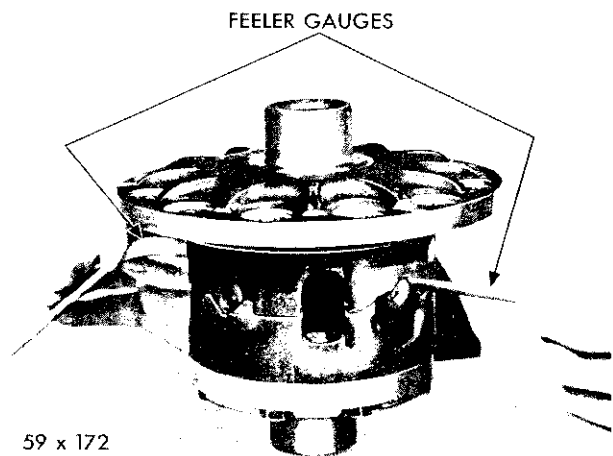

Fig. 47—Checking Clearance of Pinion Shaft and Cap
- (8) Invert differential to rest on opposite hub. Check opposite pinion shaft in like manner to same specification (Fig. 47).